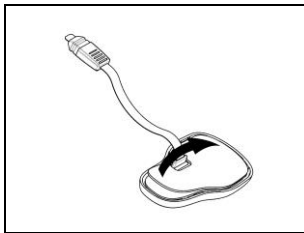

Fig. 25
- Remove the protective film from the back of the adhesive keypad using the special tab (Fig. 25).